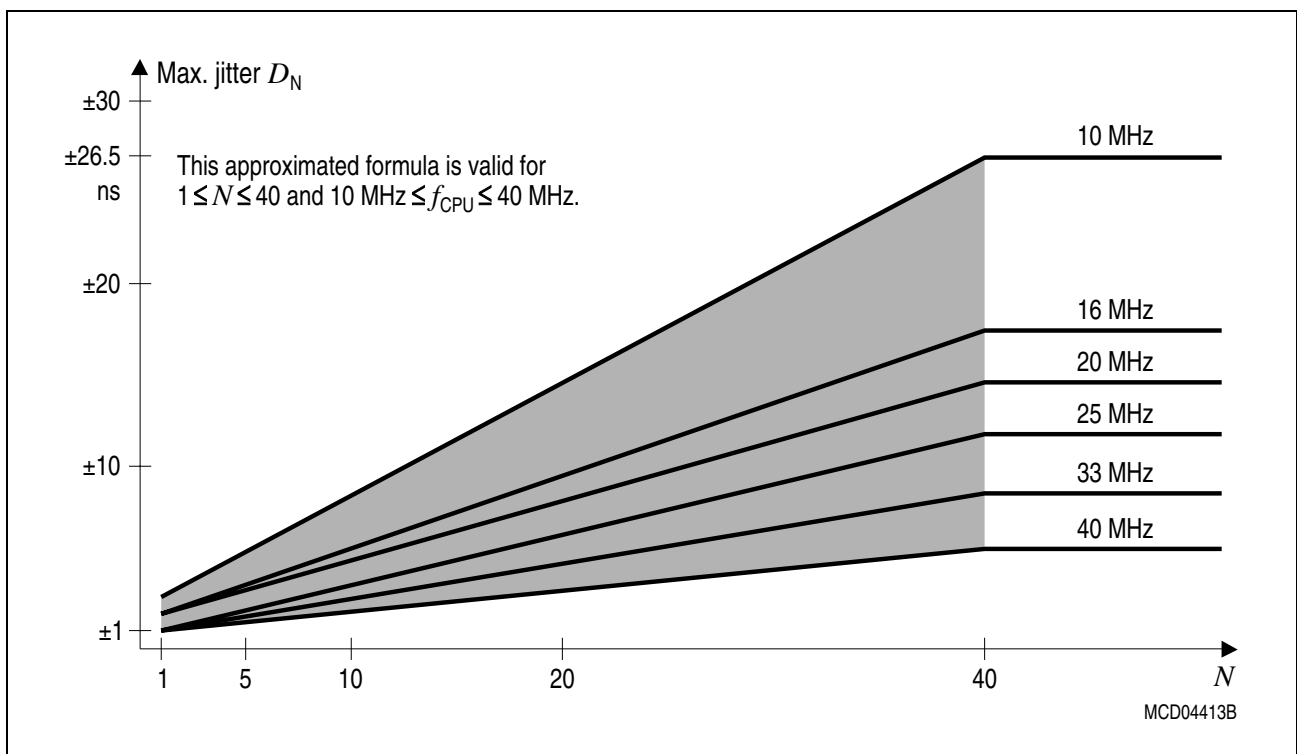

Figure 12 **Approximated Maximum Accumulated PLL Jitter**
The actual minimum value for TCL depends on the jitter of the PLL. As the PLL is constantly adjusting its output frequency so it corresponds to the applied input frequency (crystal or oscillator) the relative deviation for periods of more than one TCL is lower than for one single TCL (see formula and **Figure 12**).
*Note: For all periods longer than 40 TCL the $N = 40$ value can be used (see **Figure 12**).*